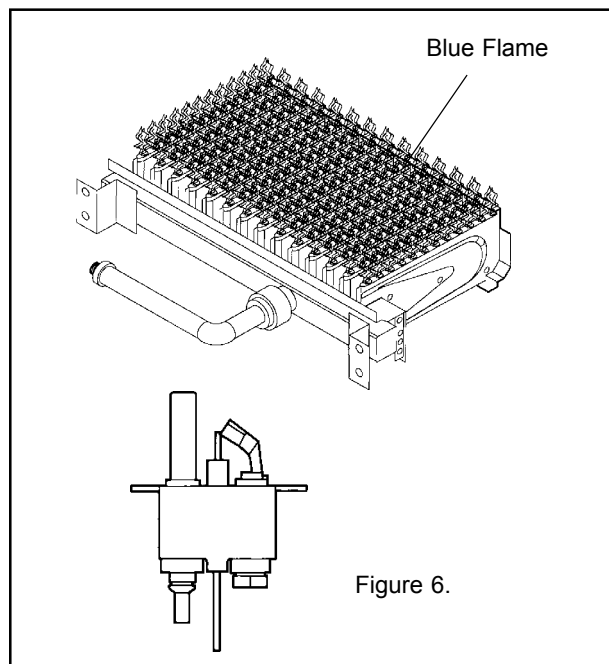

Figure 6.
2. Visually inspect the main burner and the pilot burner flame (on millivolt models). The normal color of the flame is blue. When flame appears yellow, burners should be inspected and cleaned; see Figure 6.